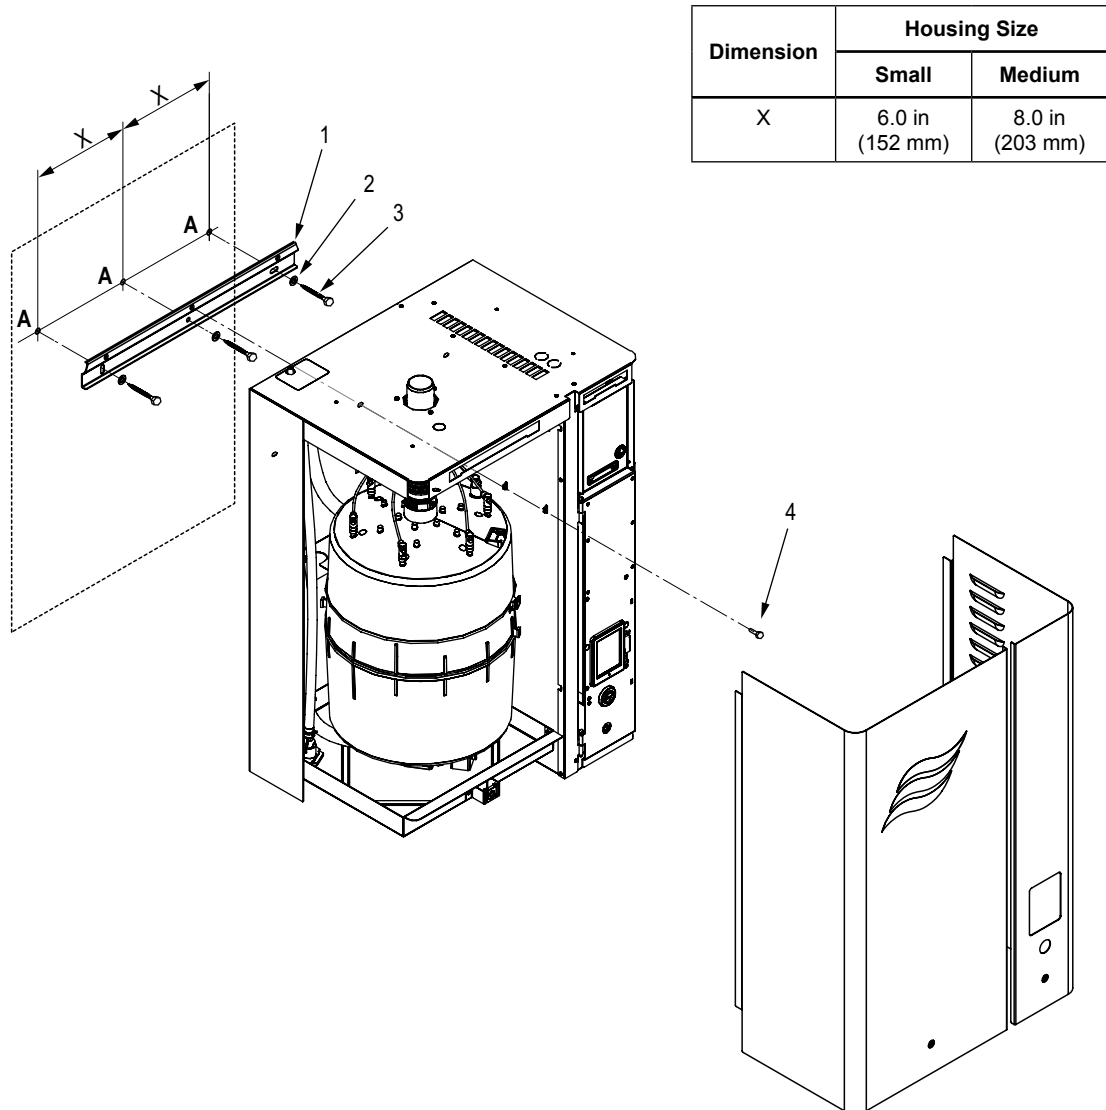
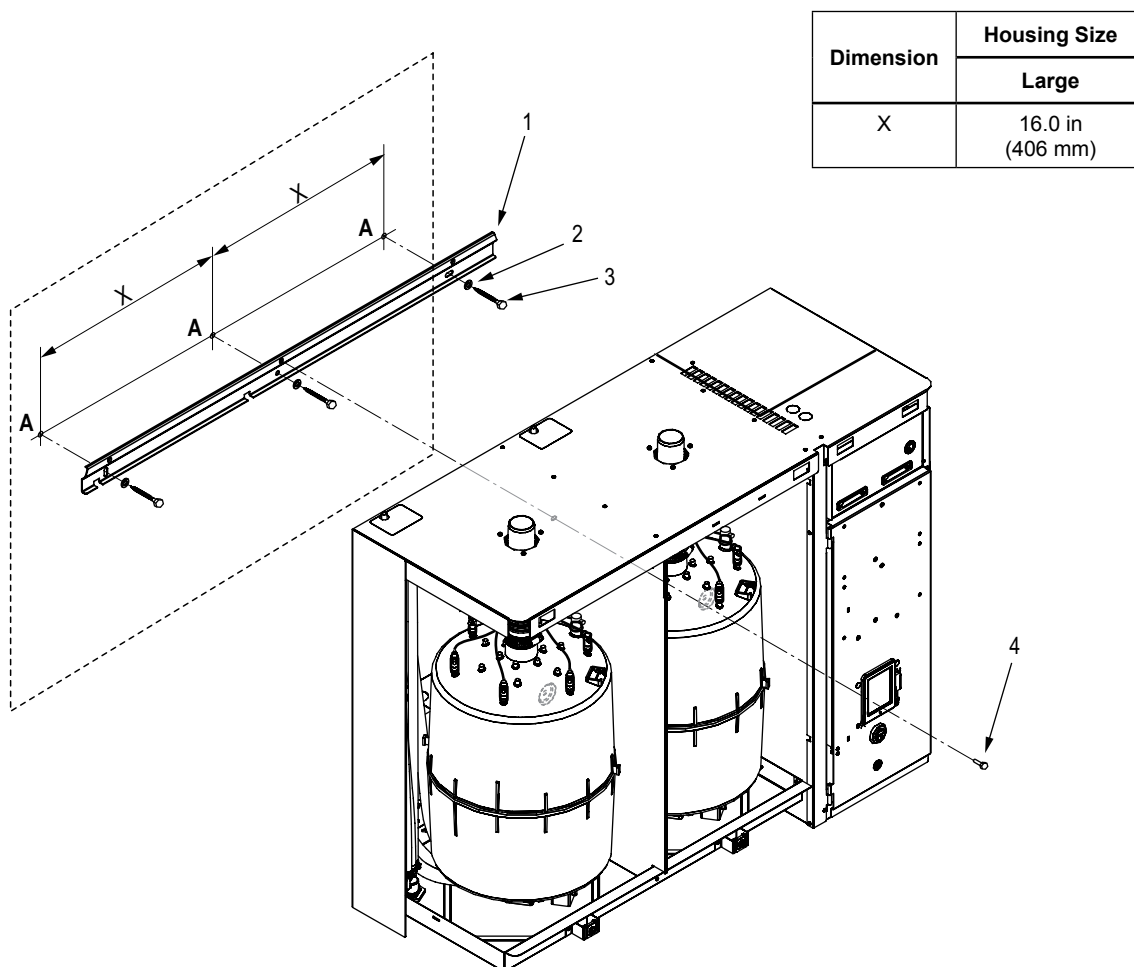

Figure 9: Optional Mounting, Small or Medium Housing
Figure 10: Optional Mounting, Large Housing
1. Locate 2×4 wooden studs or equivalent support in the mounting surface, and mark the attachment points "A" at the desired position with the help of a level. For small or medium housing refer to Figure 9. For large housing refer to Figure 10 on page 21.